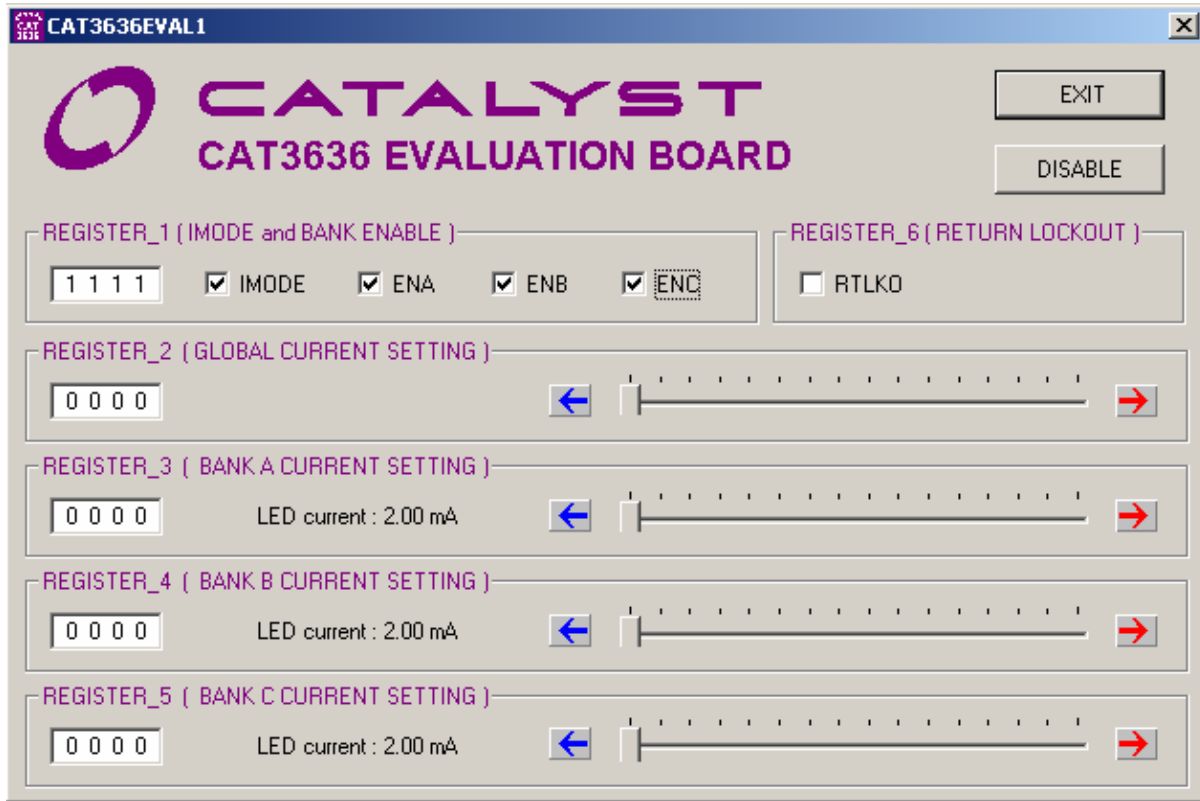

Figure 4. CAT3636 with all channels enabled (IMODE=1) and ILED set to min value
- e) After the device is enabled, the user can write into the REGISTER_1 to set the current mode (IMODE) and activate the corresponding LED output channels. Figure 4 shows all the LED channels active and current mode set to high current range (up to 32mA) selected. The current for each channel is set at the minimum value (=2.0mA).